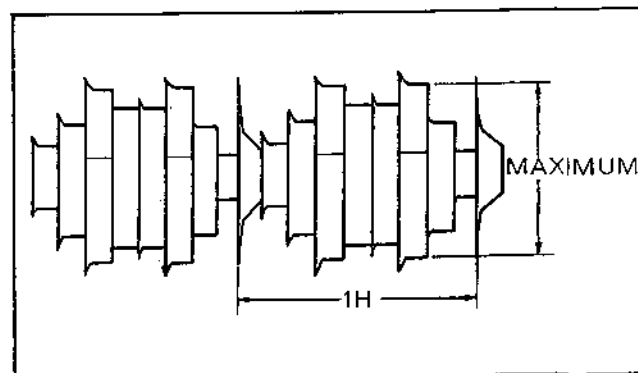

FIG. E21
- Adjust VR3701 and VR3702 mutually so that the chrominance level is maximized as shown in FIG. E21.